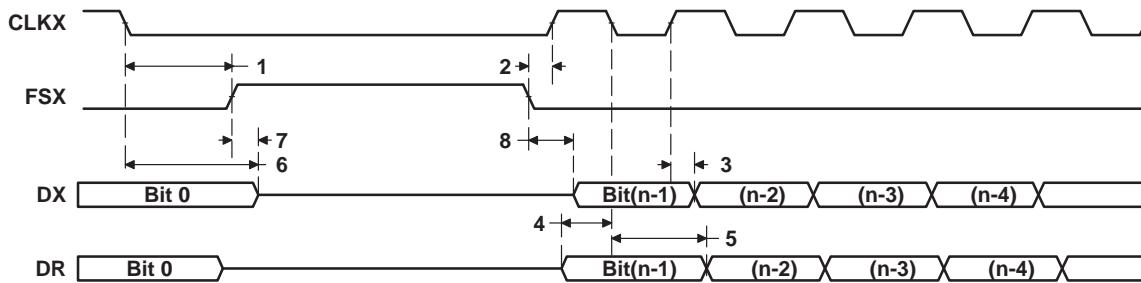

Figure 33. McBSP Timing as SPI Master or Slave: CLKSTP = 10b, CLKXP = 0
**timing requirements for McBSP as SPI master or slave: CLKSTP = 10b, CLKXP = 0†‡ (see Figure 33)**
**switching characteristics for McBSP as SPI master or slave: CLKSTP = 10b, CLKXP = 0†‡ (see Figure 33)**